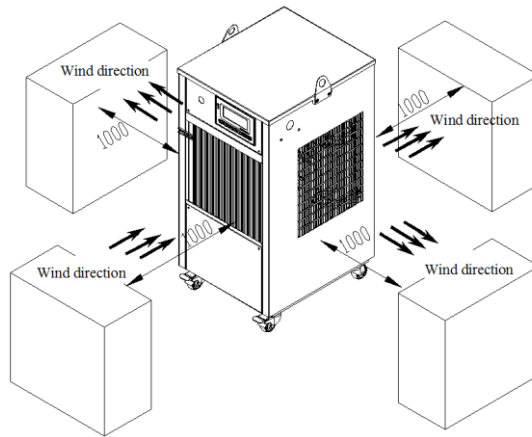

Fig. 4
- ♦ Under no circumstances should air inlet and outlet (within 1000mm) be obstructed, otherwise the cooling performance will be reduced (See Fig. 4).